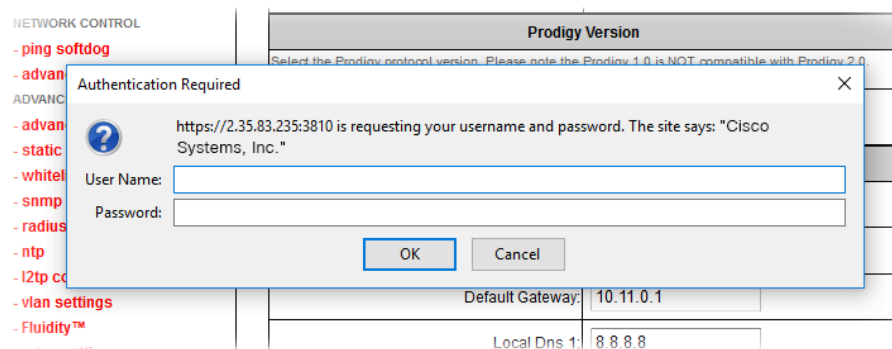

Figure 48. Web browser (Authentication Required dialog)
- The web browser will show the **Authentication Required** dialog (Figure 48 (page 99)). If needed, use the dialog to log in again.